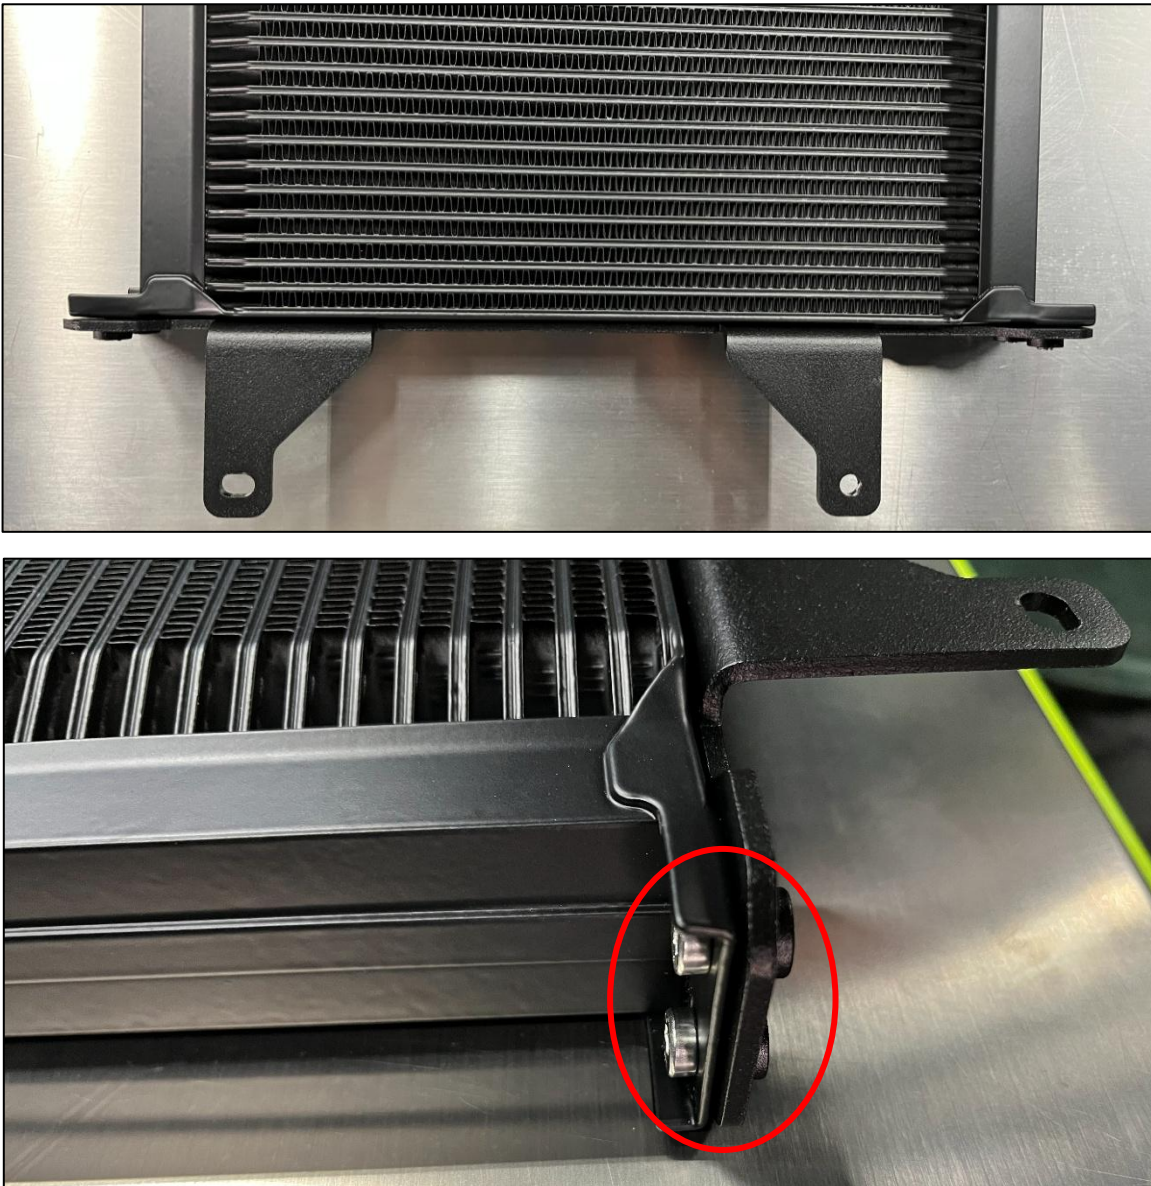

Figure 4
6. Locate the Z1 Pro-Cooler, Lower Mounting Bracket and (4) four M6 x 1.0 Socket Head Screws, 10mm. Attach the Bracket to the bottom of the Pro-Cooler and secure with (2) two Socket Head Screws per side. *Figure 4.*